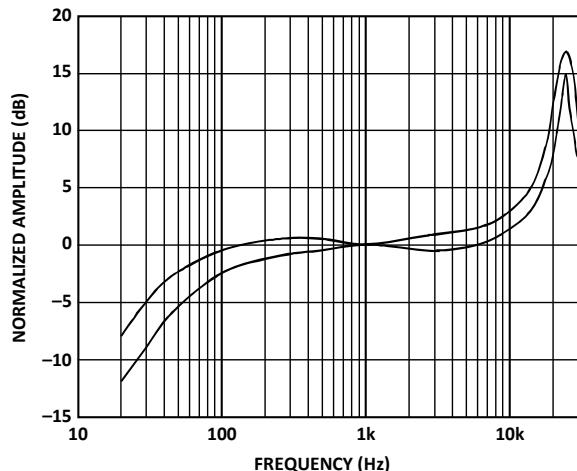
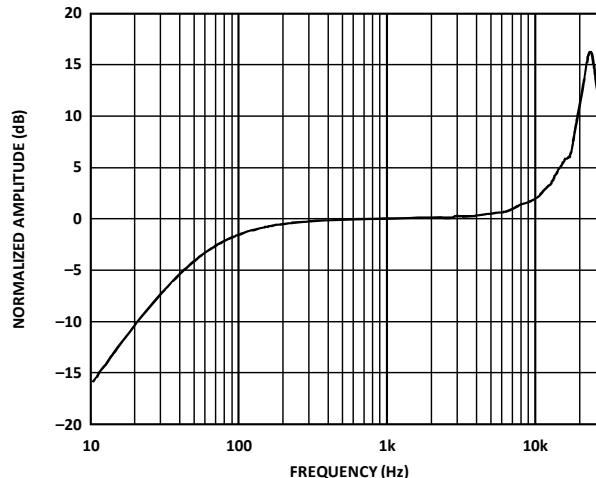

Figure 3. Frequency Response Mask
Figure 4. Typical Frequency Response (Measured)
**Note 2:** See Figure 3 and Figure 4 .